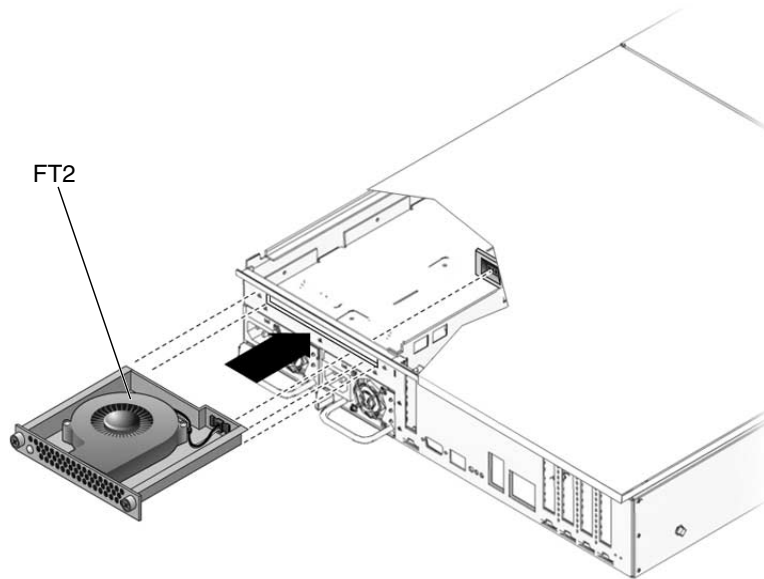

FIGURE 4-5 Replacing the Blower Unit
2. Slide the blower into the chassis until it locks into the power connector at the front of the blower compartment (FIGURE 4-5).